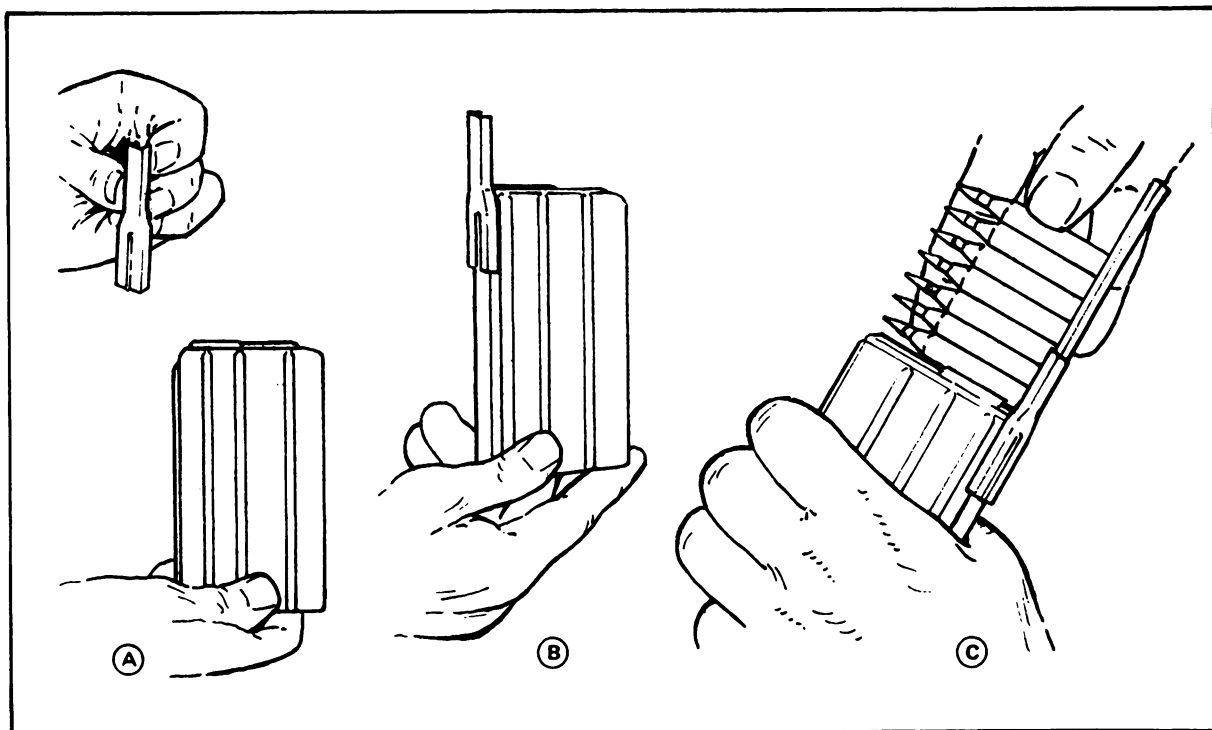

Figure 2.
- c. Cartridges can also be loaded utilizing the magazine charger and strips, as illustrated in figure 2.